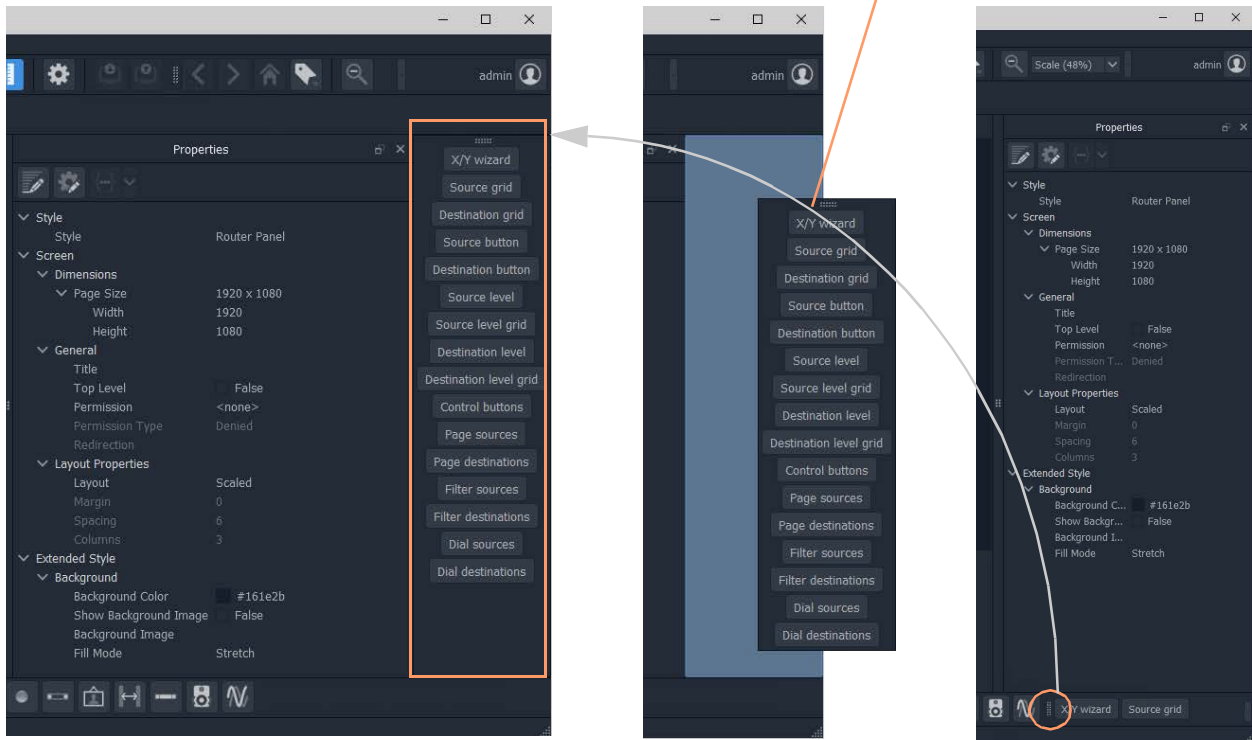

Fig. 13-40: Re-positioning the Routing Control Widgets Tool Bar
- 6 Drag the routing control widgets tool bar by its handle to a convenient position. See Figure 13-40.